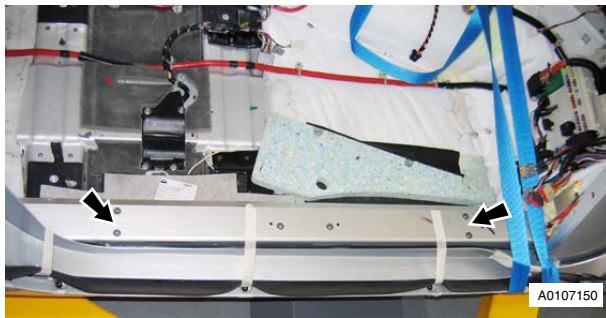

Figure 7
9. Remove screw, wing to sill (see Figure 7).